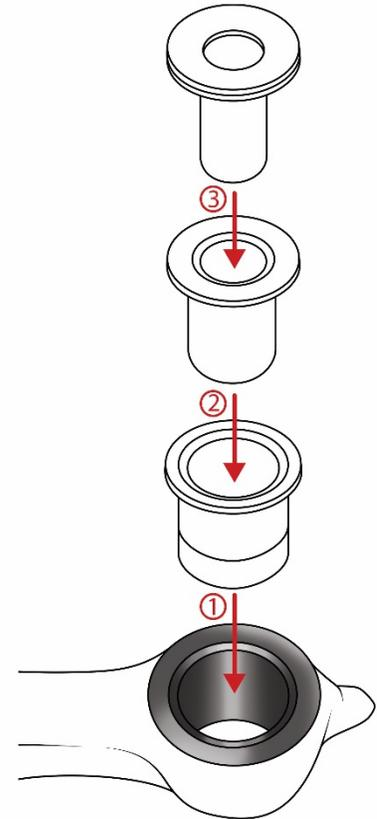

Figure 1: Bushing Install Order
4. Clean inner bores of UCA and then press in outer sleeves [Fig 1]. Fit should be snug. If it is loose, it indicates a problem with your UCA that cannot be fixed—**arm must be replaced**.
5. Slip in bushing and inner sleeve (do NOT use lube) [Fig 1].